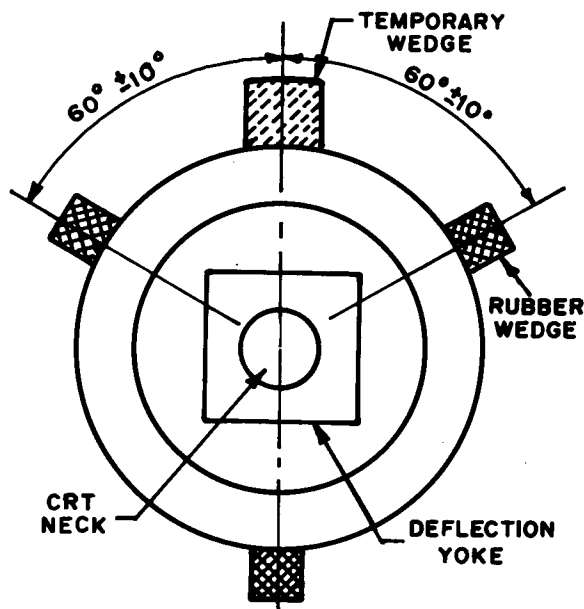

FIGURE 8
- 4.3 Insert three rubber wedges to the position as shown in Fig. 8 to obtain the best circumference convergence.
- 4) The angle of each rubber wedge is shown in Fig. 8.